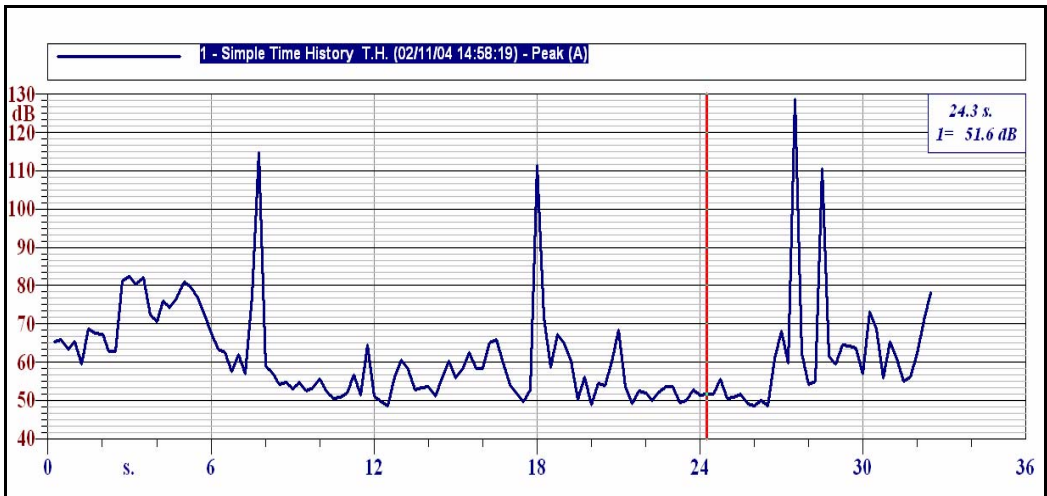
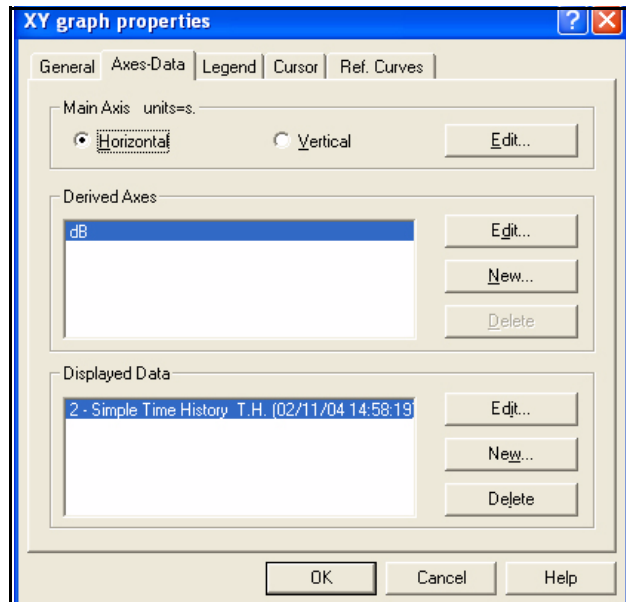

FIGURE 3-10 Time History; A-Weighted Peak, Autoscaled
FIGURE 3-17 XY Graph Properties
Left click **Autoscale** to obtain the graph shown in FIGURE 3-10 .
The graph we have been working with presently shows the Peak(A) data as shown in FIGURE 3-10 "Time History; A-Weighted Peak, Autoscaled" on page 3-9. We will now add to this curves measured using the Fast and Slow detectors. Place the cursor in the center of the graph, right click, then then left click **Properties**, then left click the Axes-Data tab to obtain the menu shown in FIGURE 3-17 .